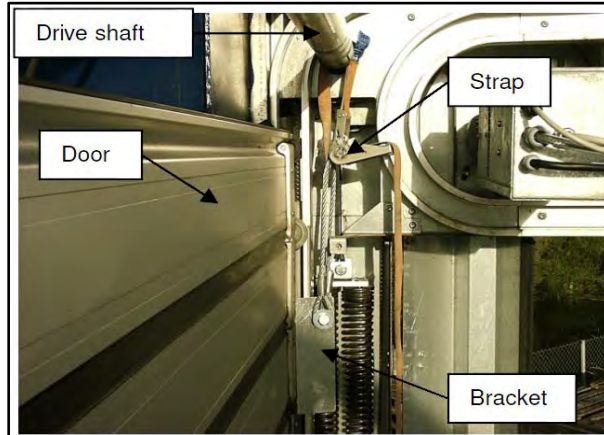

Figure 46
4. Place clamps or brackets at the rollers to secure the door and prevent it from accidentally moving once belt tension is released. (See Figure 46.& 47)